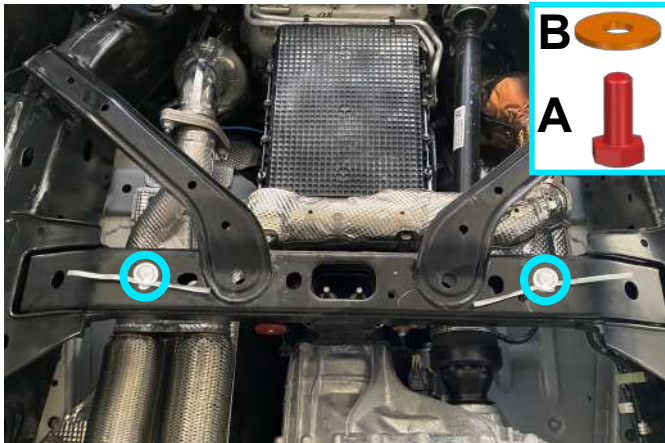

Fig. 5
4. Loosen bolts M10x25 (item A) and washers 10 (item B) in front mounting points (Fig.5).